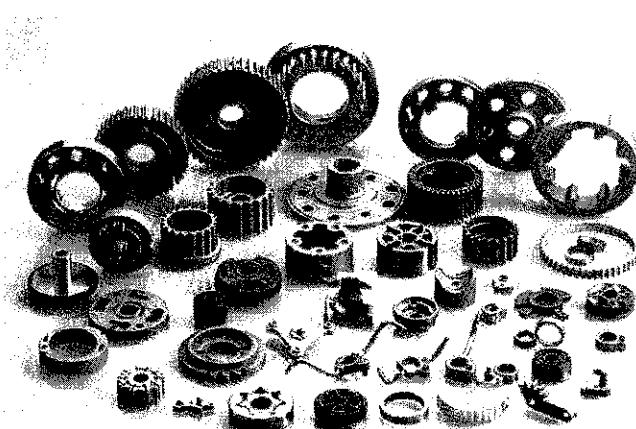

Figure 3(a) / Rajah 3(a)
- CLO 1 (d) Figure 3(d) above shows an automotive part produced by powder metallurgy process.
- i. Assign **TWO (2)** advantages and **TWO (2)** disadvantages of powder metallurgy process.
*Tentukan **DUA (2)** kelebihan dan **DUA (2)** kekurangan proses metalurgi serbuk logam.*